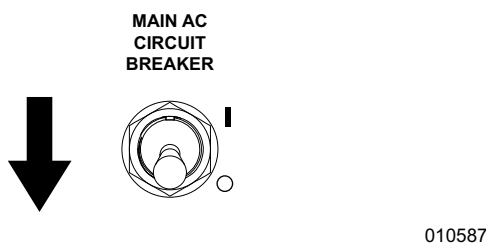

Figure 3-26. Main AC Circuit Breaker OFF (O)
3. See Figure 3-26. Switch main AC circuit breaker to OFF (O).